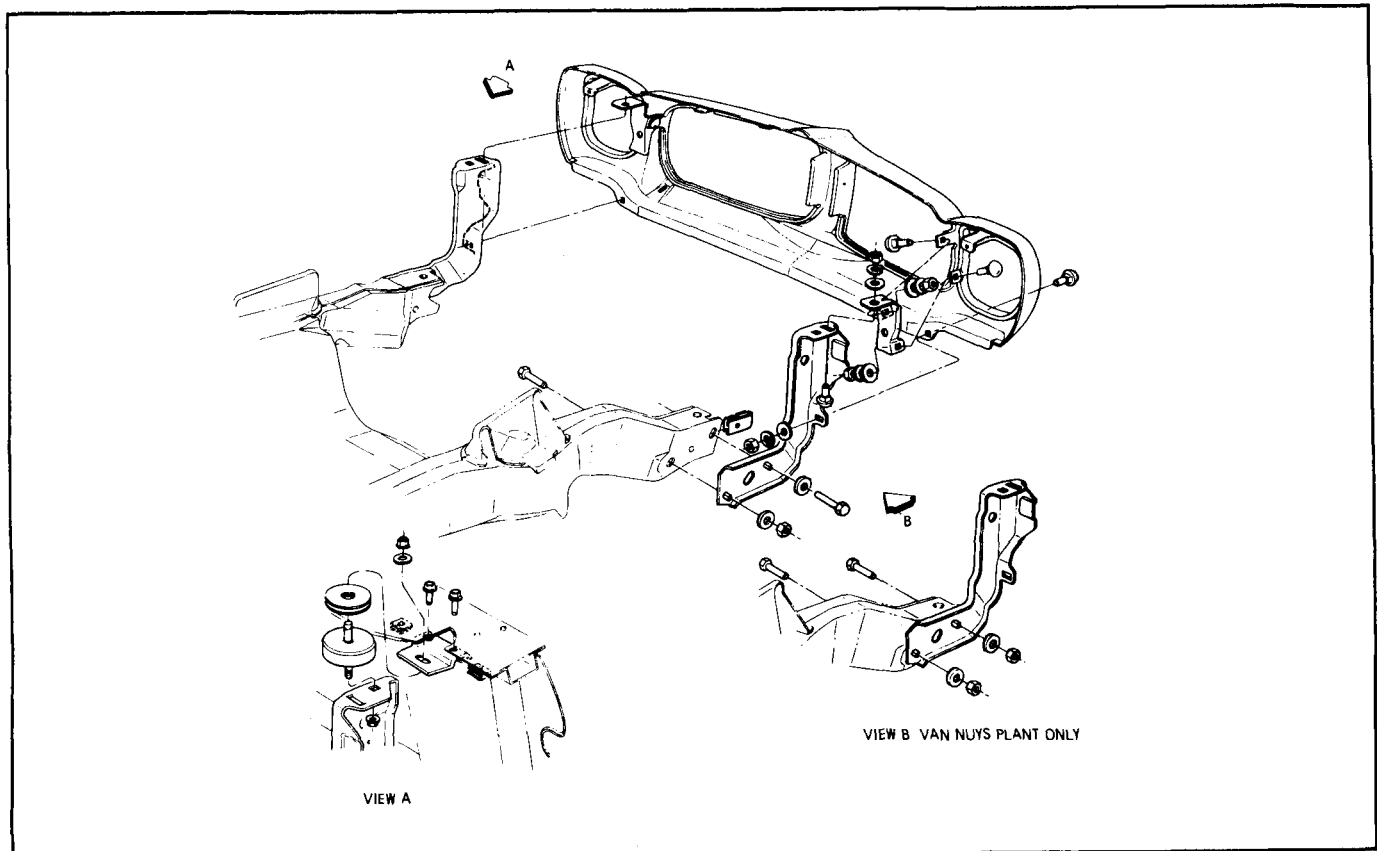

Fig. 14-11 F Series Front Bumper Assembly
REMOVE F SERIES FRONT BUMPER (Fig. 14-11)
5. Remove bumper assembly (Fig. 14-11).